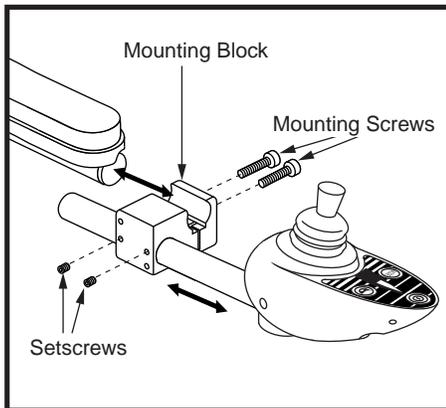

Figure 17. Controller Position - Mounting Block
4. Loosen the mounting screws in the controller mounting block. See figure 17.
2. Loosen the setscrews in the controller mounting block. See figure 17.